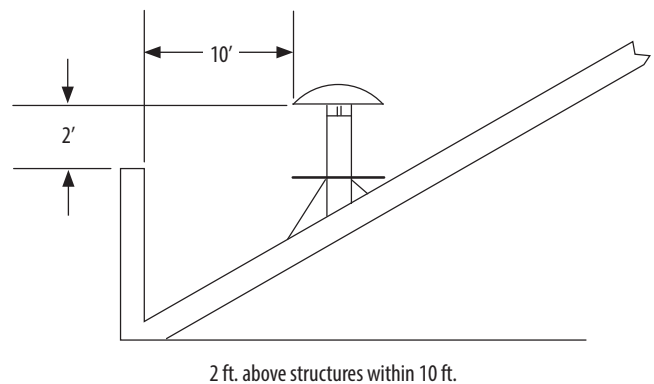

Figure 2- Vertical Installation Requirements
- The vent system must terminate at least 3 feet above the roof line and at least 2 feet higher than any portion of the building within 10 feet. See Figure 2. This limitation can be removed if an engineering analysis demonstrates normal and safe operation of appliance.
- The vent system must terminate with one of the CAX1-(BC) terminations.